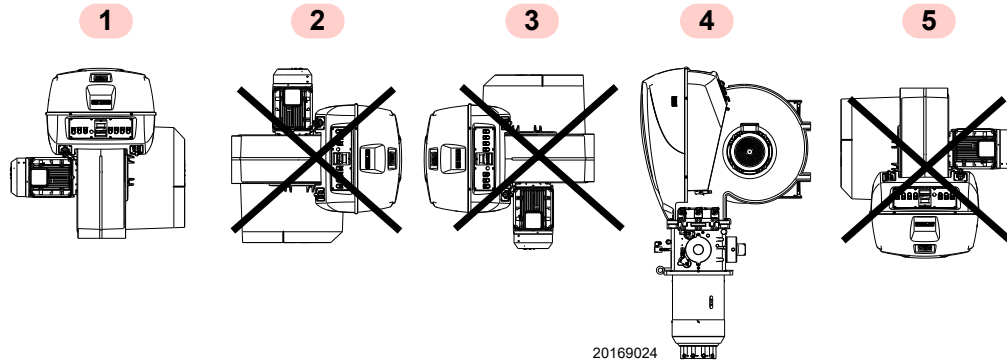

Fig. 9
- The burner is designed to operate only in positions **1** and **4** (Fig. 9).